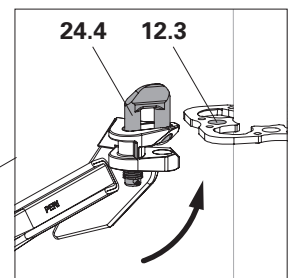

Fig. A4.11d
4. Push the upper brace head (**24.2**) with raised bolt (**24.4**) onto the upper rosette. (Fig. A4.11d)